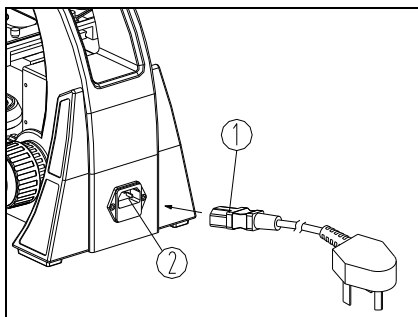

Fig.7
2. Insert one end of power cord ① into the power socket ② of the microscope. Then insert the other end into the power supply socket and make sure well-connected (See Fig.7).